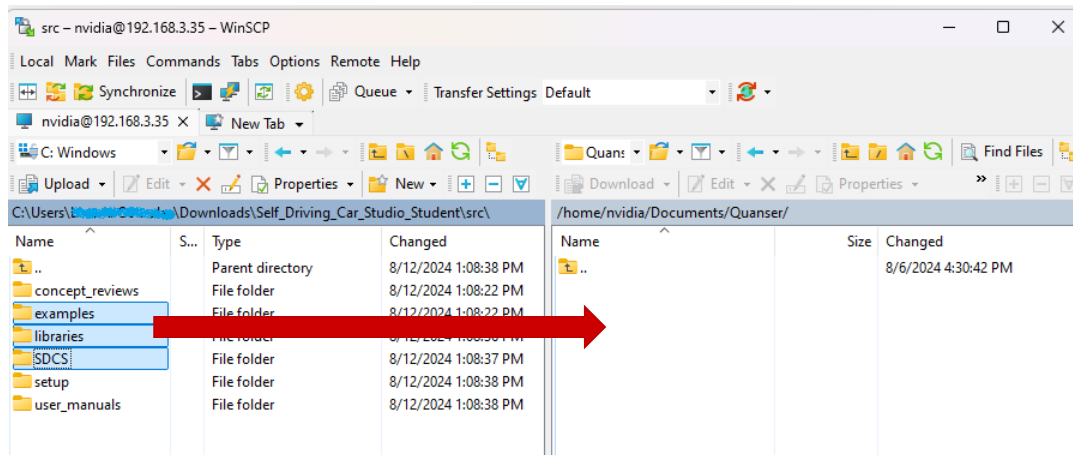

Figure 4. Transferring files to QCar
1. Make a directory on the QCar for Quanser resources where files will be transferred to and from. We recommend creating a folder called Quanser under Documents (Figure 5). The following directory should now exist: `/home/nvidia/Documents/Quanser`. To connect to the QCar 2 and create this directory, we recommend using WinSCP, as shown in figure 4. (see the User Manual - Connectivity for how to remotely connect to the QCar).
3. Using WinSCP, on your PC side, navigate to the `src` folder of your unzipped folder from the previous step. On the QCar 2 side, navigate to your new *Quanser* folder. Your WinSCP window should look like figure 4. From the `src` folder in your PC, copy/drag the **SDCS**, **libraries** and **examples** folders over to your new Quanser folder in the QCar.